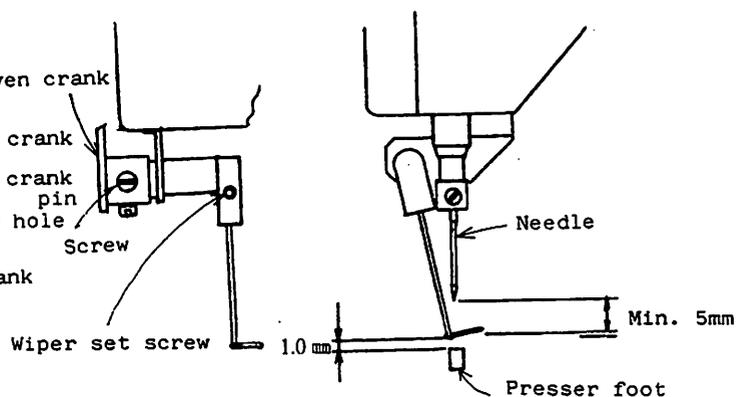

Fig. 10.22
- (2) Set the STOP/MOVE switch to STOP position when the sewing machine stops (take-up lever located at its highest position) to lower the presser foot. Loosen the wiper set screw and adjust height of the wiper so that the top of wiper is 1.0mm above the top surface of presser foot. If the distance between the needle point and the wiper top is less than 5mm, the wiper should not be used (the wiper may hit against the needle) (see Fig. 10.22).